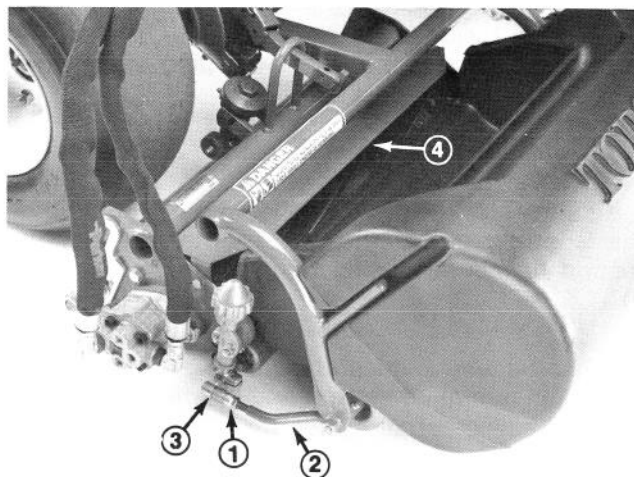
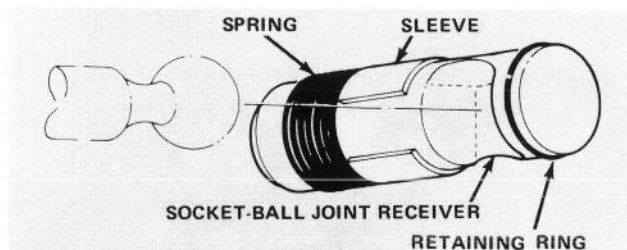

Figure 8
Figure 9
clearance between the lip of the basket and the reel blades (Fig. 8).
7. Align the sockets in the ball joints so the open side of the socket is centered towards the ball stud (Fig. 9). Tighten the jam nuts to secure the sockets in position (Fig. 8).